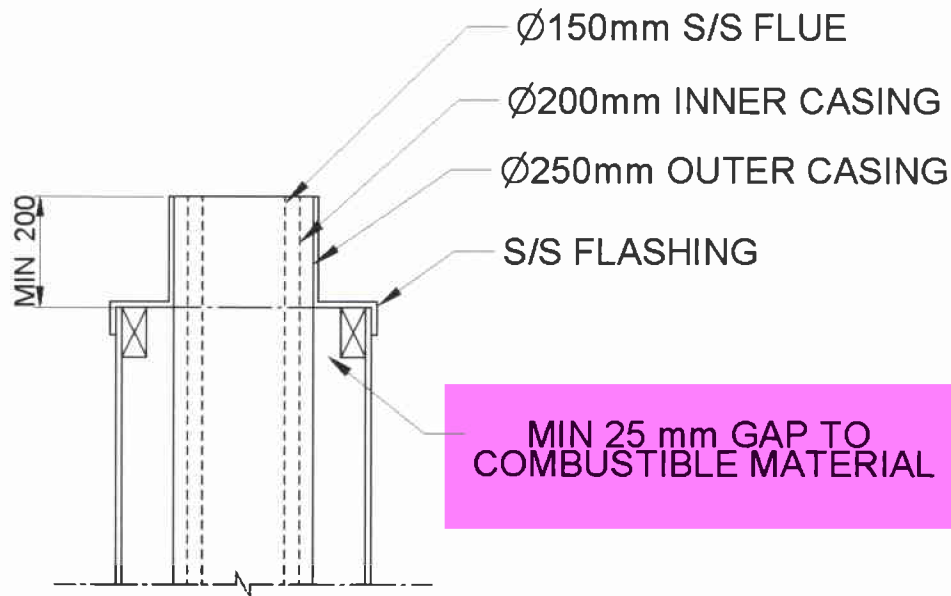

Fig. 9
20. Lower the assembled flue and **seal and fix it to the flue socket** of the heater. **Use a stainless steel screw.** Lower the inner flue casing and engage it with the special adaptor spigot ring, repeat this step with the outer flue casing. See Fig. 9 & 10 for flue and casing lengths.